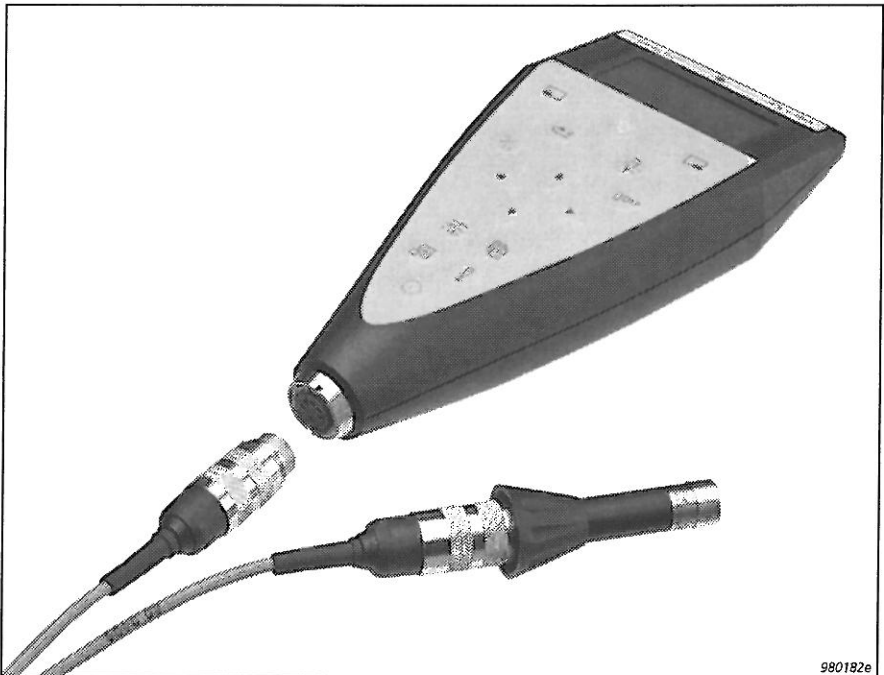

Fig.2.3 Connecting a microphone extension cable to the sound level meter
2. Insert the other end of the microphone extension cable into the input stage socket and secure by turning the threaded retaining ring. (see Fig. 2.3).